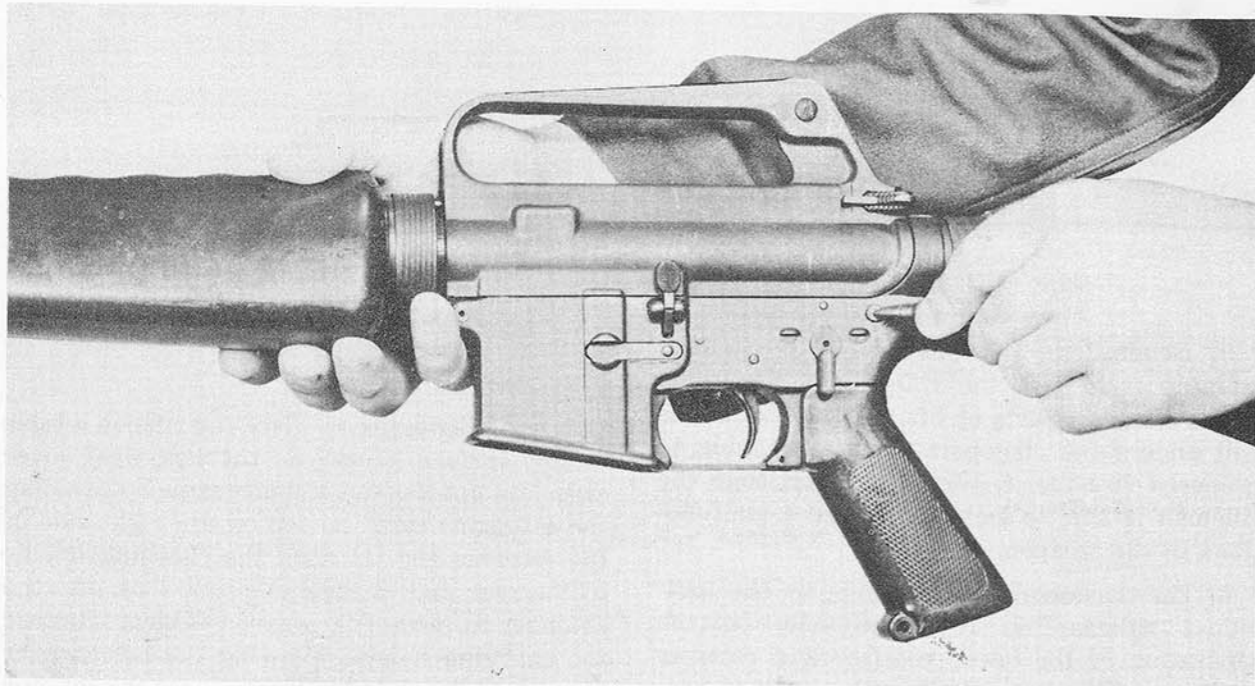

Figure 3. Pressing the takedown pin to the right.
*b.* Keeping the muzzle to the left, turn the weapon over. Use the nose of a round to press the takedown pin to the right until the upper receiver swings free of the lower receiver (figs. 3 and 4).